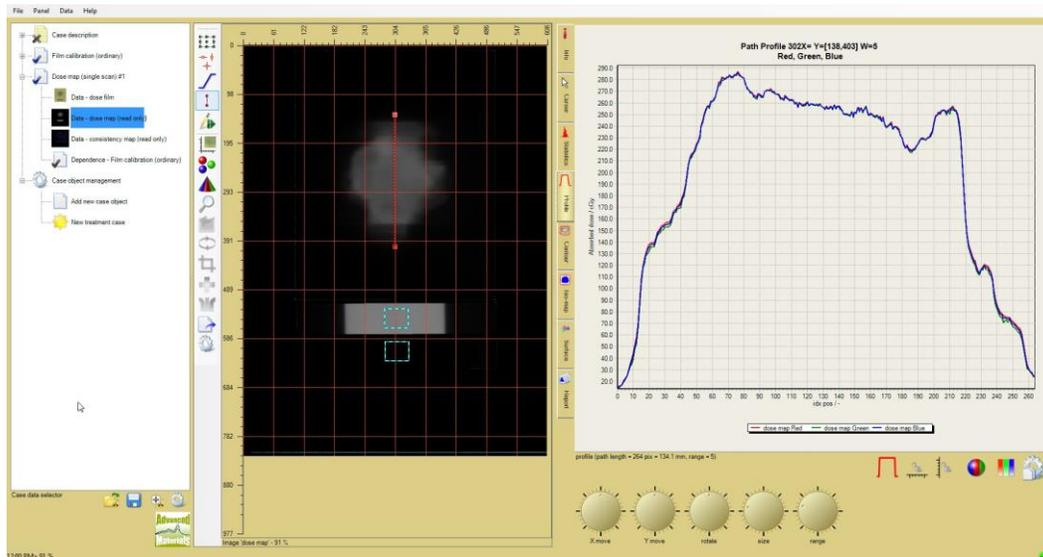
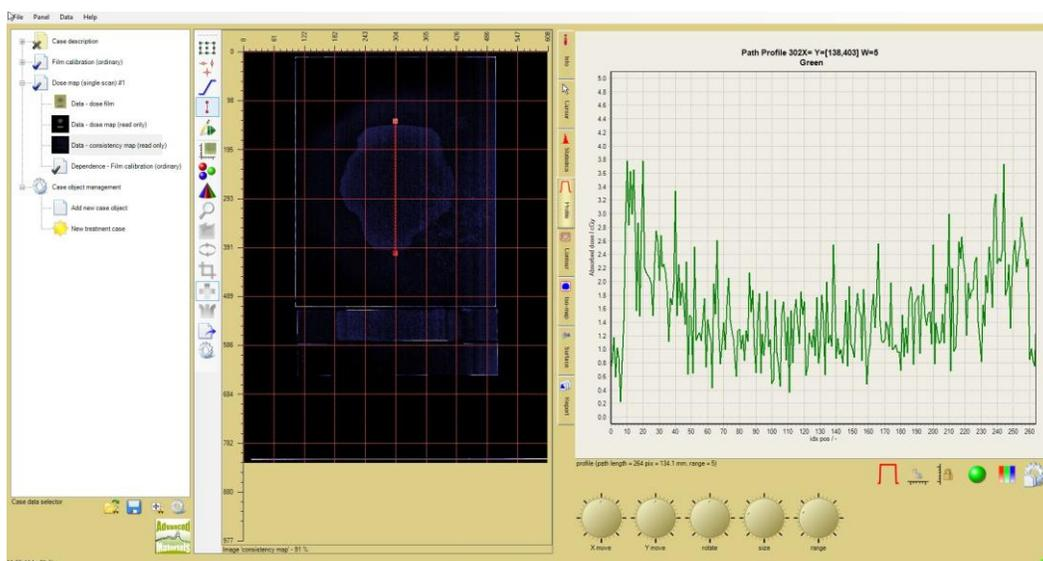

Figure VI-10
Figure VI-11
Step 10: Click on the thumbnail Dose-Map, activate the Profile tool and draw a path across the exposed area. Inspection of the RGB dose profiles (Figure VI-10) shows there is good correspondence between the results. Now click on the thumbnail of the Consistency Map and display the average dose difference between the channels.. Arithmetic mean dose difference displays in red, geometric mean in green and maximum dose difference in blue. Figure VI-11 shows the profile of geometric mean dose difference. The profile path in the two Figures is the same. Inspection of the results in the profiles shows (dose consistency)/dose better than 2% for doses >50 cGy and about 0.5%-1% over most of the exposed area. Good consistency is a positive indication of reliable dosimetry. Poor consistency, e.g. >4%, is indicative of a problem and should be investigated to establish the cause.